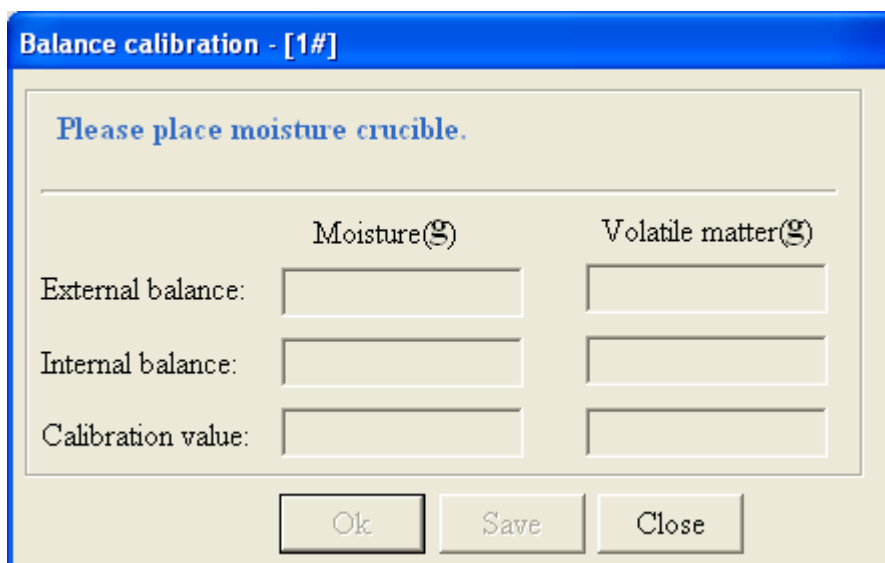

Fig.4-4-3
4. Balance Calibration: It is aimed to calibrate the relative error between the external balance and inner balance at room temperature. Select this submenu, the system will pop up the Window as showed in Fig.4-4-3